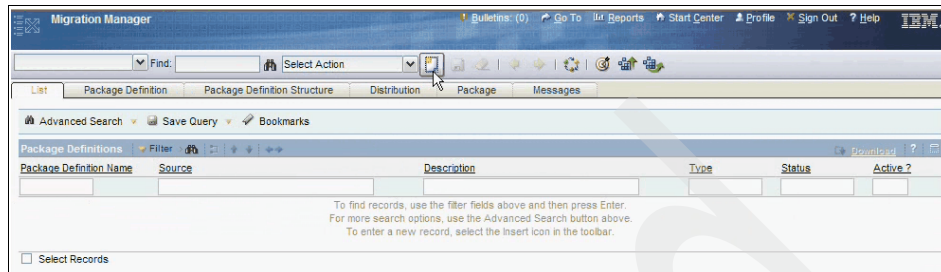

Figure 8-20 New package definition
- Click the **New Record** button in the button bar on your window, as shown in Figure 8-20.